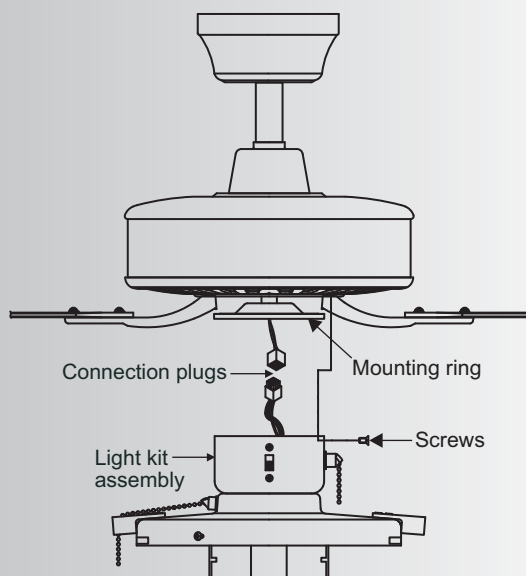

Fig. 17
Step 2. Raise and hold the light kit close to the switch housing. Snap together the wire connection plugs. (Fig. 17)
Step 3. Carefully push all wires back into the switch housing, then install the light kit assembly onto the mounting ring with 3 screws provided. Be sure to tighten all screws. (Fig. 17)